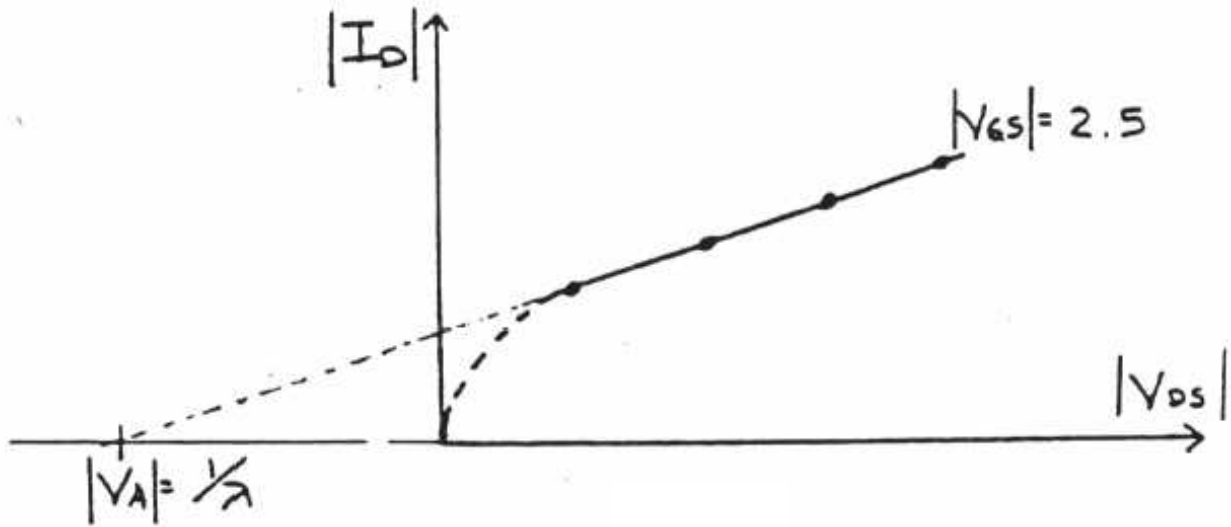

Figure 4: Determining  $\lambda$  from the  $I_D$  vs.  $V_{DS}$  plot.
**Part 6 (10 points)** Using your data from part 4, plot  $I_D$  vs.  $V_{DS}$  with  $V_{BS} = 0$  V for both devices and determine the channel length modulation factor,  $\lambda$ , from the slopes as shown in Figure 4.